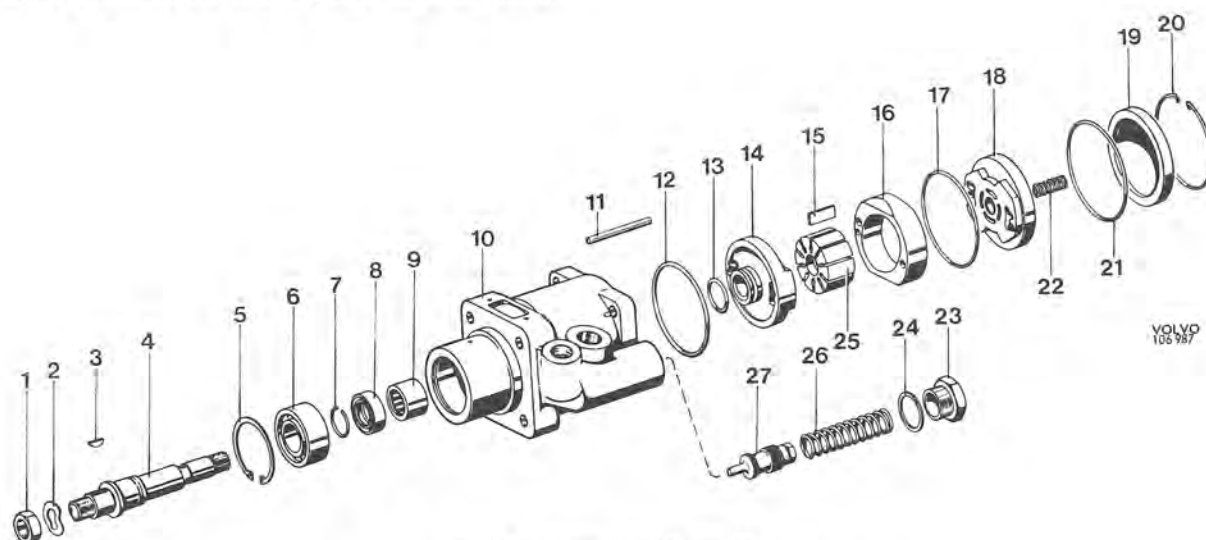

Fig. 6-88. Power pump disassembled
1. Unscrew the nut (1, Fig. 6-88) and pull off the pulley. Use if necessary puller 2279. Remove the brackets.
2. Remove the circlip (20) with polygrip pliers.
3. Remove the cover (19), spring (22) and plate (18). Use polygrip pliers.
1. Check the shaft (4, Fig. 6-88) for scores from the sealing ring and needle bearing. Check the threads and lands for damage. If the bearing (6) is damaged, it can be removed after the circlip (7) has been taken off.
1. Press the needle bearing (9, Fig. 6-88) into the housing with the help of drift 2996, see Fig. 6-91. The bearing should be pressed in until the tool bottoms so that the needle bearing outer edge is 37.0—37.2 mm (1.465—1.466") from the edge of the housing.